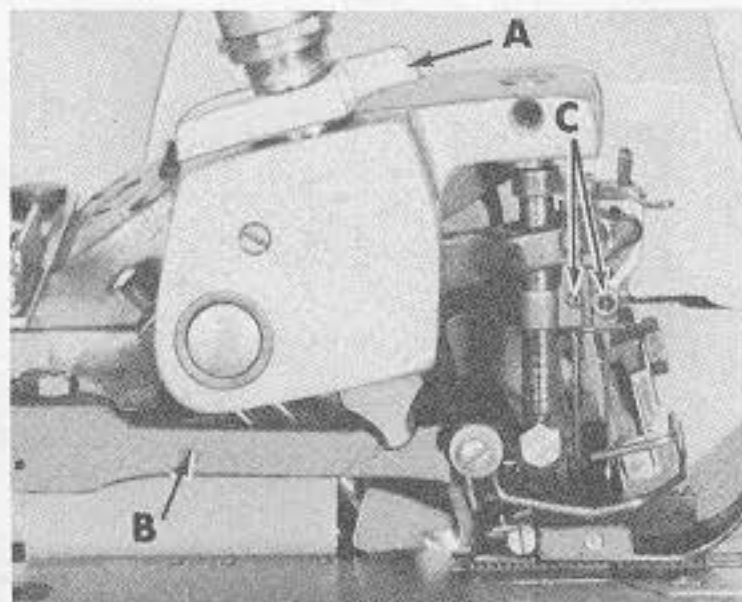

Fig. 1
Release pressure on presser foot by turning presser foot release lever (A, Fig. 1, 2 or 2A) and swing presser arm (B) out of position. With needles at high position, loosen screws (C, Fig. 1) in needle head and withdraw needles.
To replace needles, insert same into needle head as far as they will go, assuring that the scarf of the needles are to the rear, tighten screws (C, Fig. 1) securely. Return presser arm (B) to position; lock presser foot release lever (A).